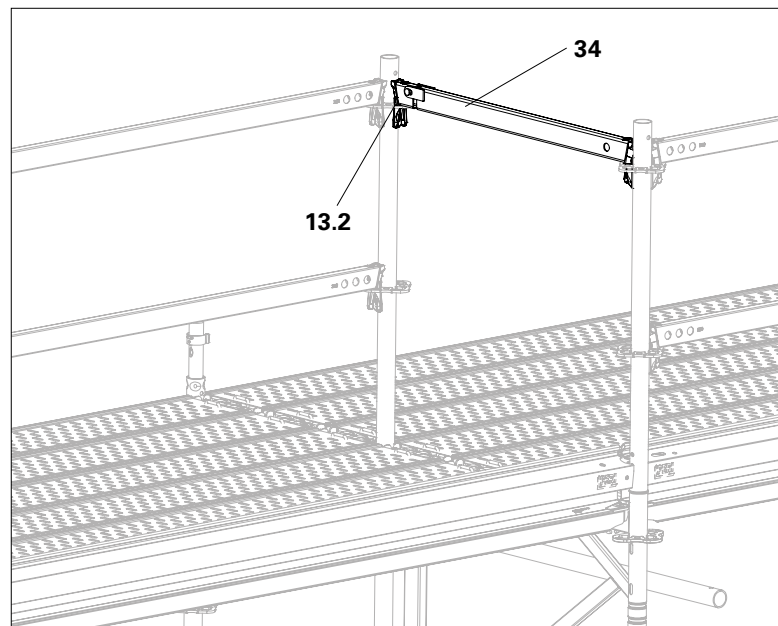

Fig. A5.11
1. Hook the Swing Ledger UPK (34) on both standards (13) into the ledger-to-ledger couplers (13.2) of the rosettes.
2. Secure the wedges. (Fig. A5.11)